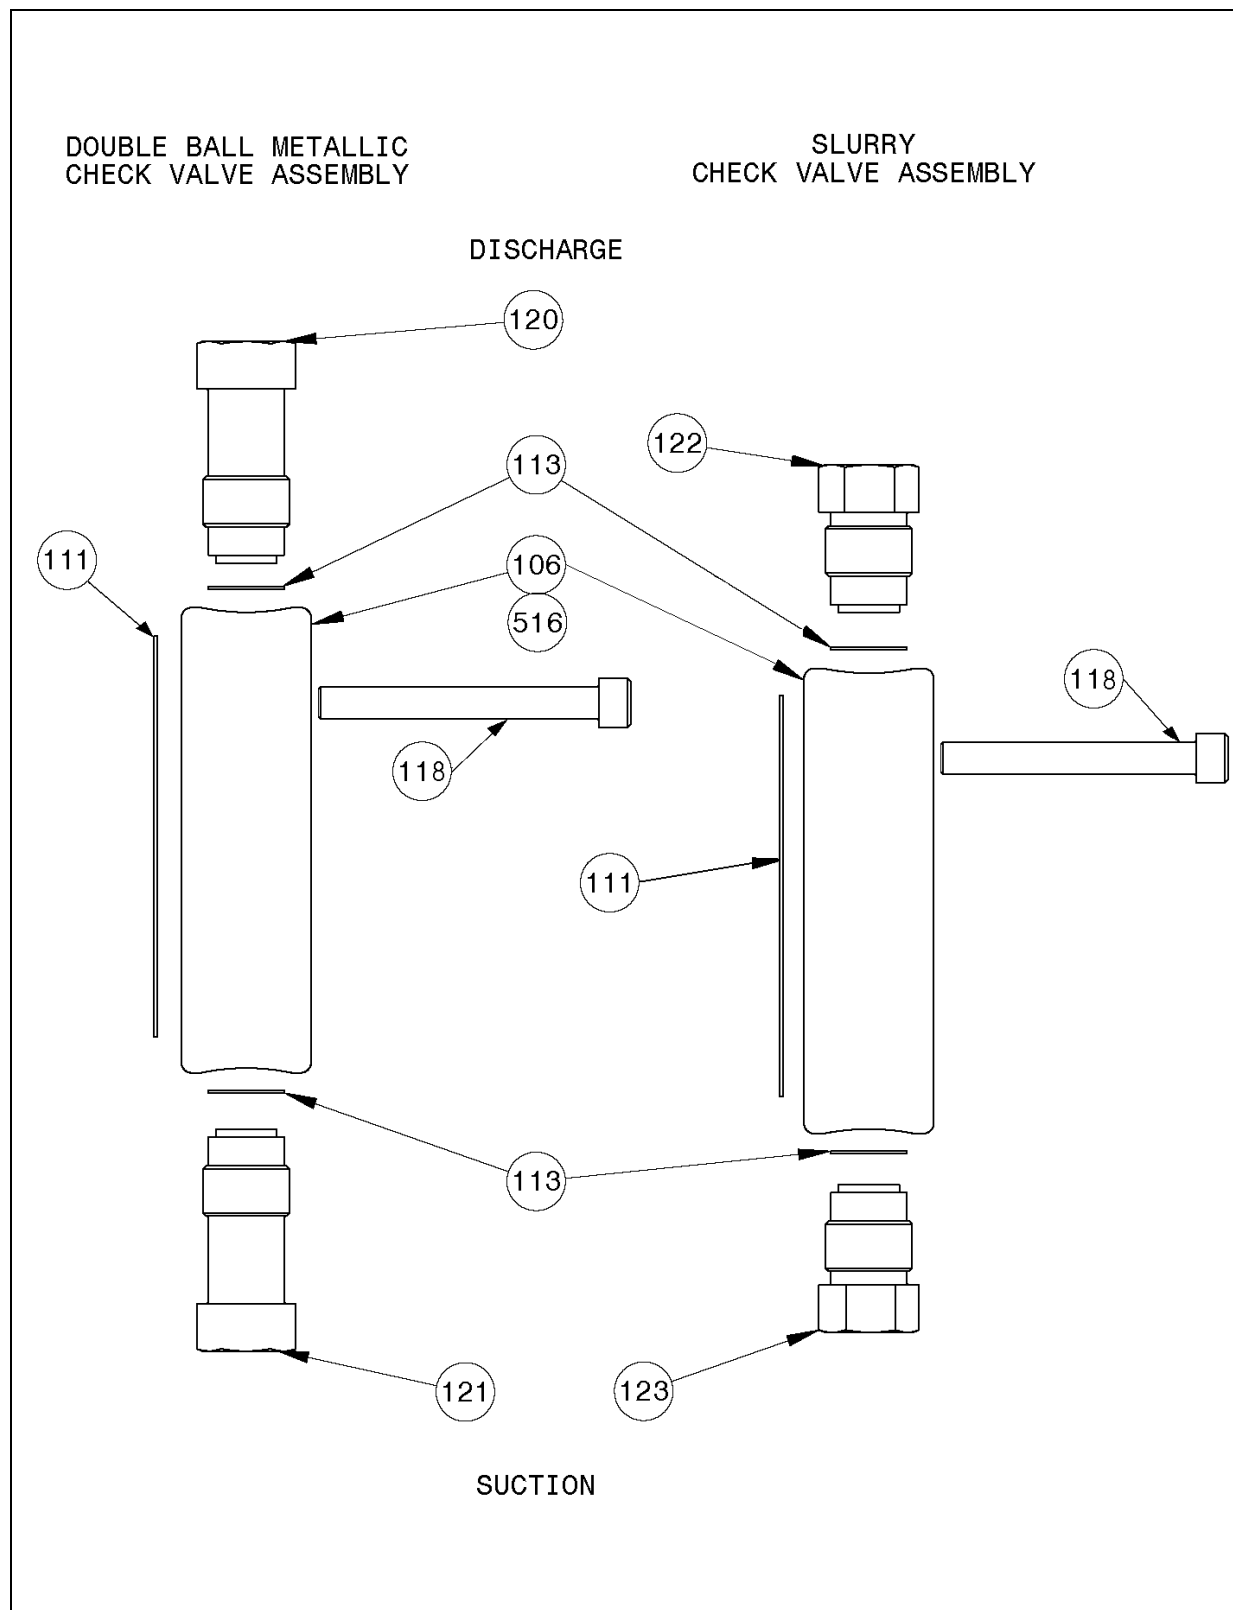

Figure 31. Liquid End Assembly, Size B, Metallic.
(FIGURES 31 & 32)**
6.12 LIQUID END ASSEMBLY, SIZE B (FIGURE 31 & 32)